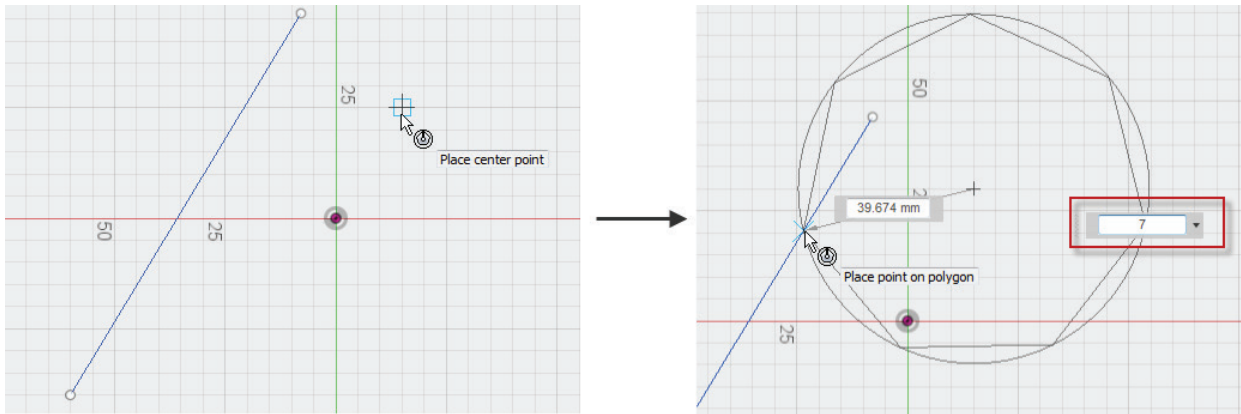

Figure-25. Creation of inscribed polygon
- Click on the screen to specify the center point of the circle; refer to Figure-25.